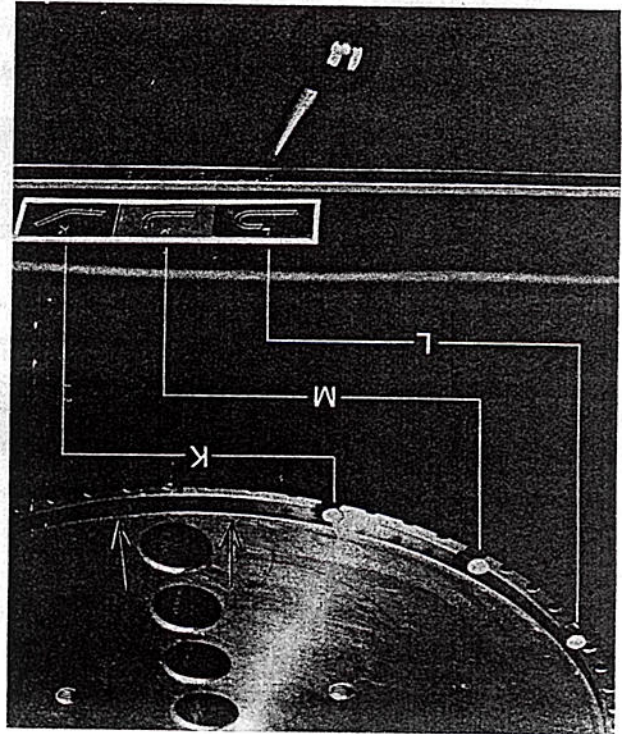

Fig. 5: Trip Dogs
- Fig. 5 Assembly Drawing: Electrical System
If the machine has been operated with switch position 2 (Manuel) or 3 (Continuous), the turntable must be returned to the zero-position (see Figs. 5 and 6) before switch position 1 (Automatic) is selected.
The trip dogs work in conjunction with the lever controlling the bending angle setting (Fig. 5). The dial plate of this lever is marked in the same way as the trip dogs. Trip dog K initiates reversal in lever position K, trip dog M in lever position M and trip dog L in lever position L.